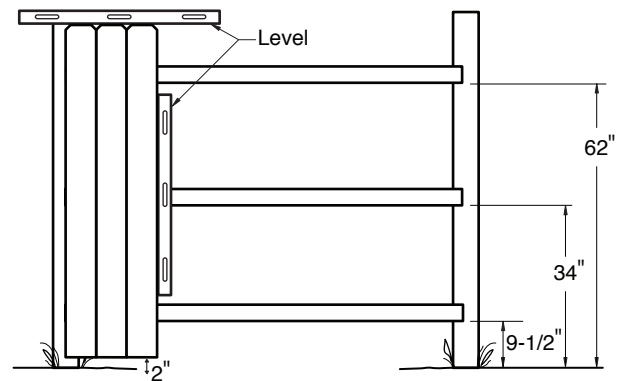

fig. 5
- Suggested positions for backer rails: starting from the ground, measure 9-1/2", 34" and 62" (fig. 5). Mark these points.
- To install pickets to backer rails, use the provided fasteners. Position pickets a recommended 2" above the ground. Start at one end of the rail and check for plumb every three or four pickets. If you wish to build a solid privacy fence, abut the pickets without leaving a gap between them (fig. 5).